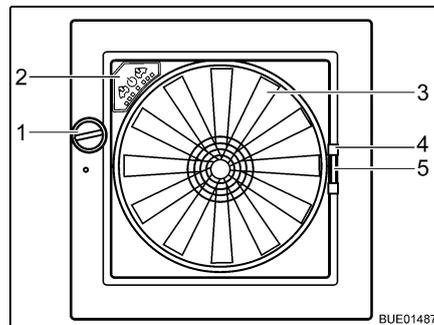

Fig. 56 Omni-Vent skylight
Opening: ■ Turn the knob (Fig. 56,1) until the desired opening angle is reached.
Closing: ■ Turn the knob (Fig. 56,1) until the skylight is fully closed.
Closing: ■ Using the handle (Fig. 56,4) pull the insect screen across to the other side of the frame.
- Press together the handle (Fig. 56,5) of the shade.
Fan If the skylight is open, the interior can be vented and aerated with the 6-speed fan (Fig. 56,3). The fan is operated via the operating panel (Fig. 56,2).